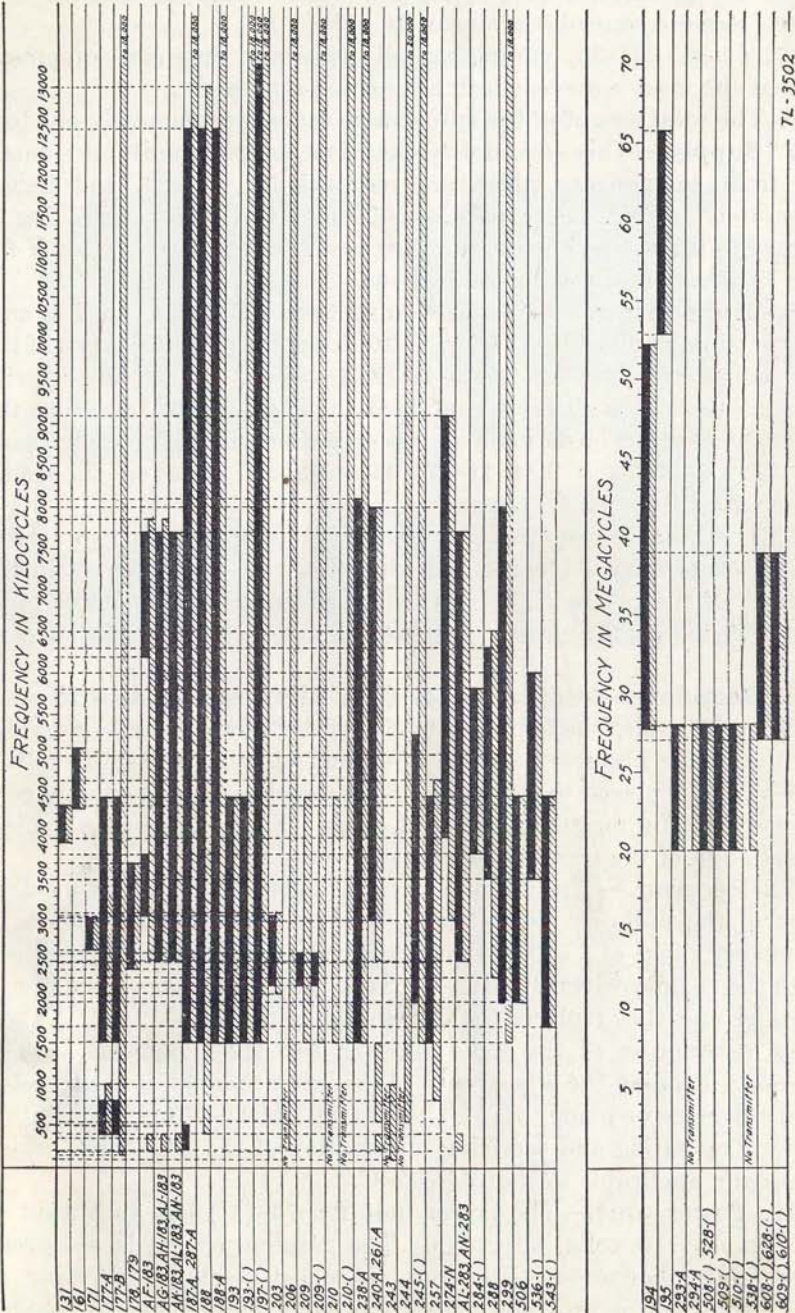

FIGURE 1.—Chart of overlapping frequency ranges of Army radio sets
**2. Frequency coverage.**—The frequency coverage for transmission is 1,500 to 12,500 kilocycles; for reception 1,500 to 18,000 kilocycles. This radio set can be netted with others of corresponding frequency coverage, in accordance with figure 1, providing the various sets of the net are within satisfactory distance range of each other.